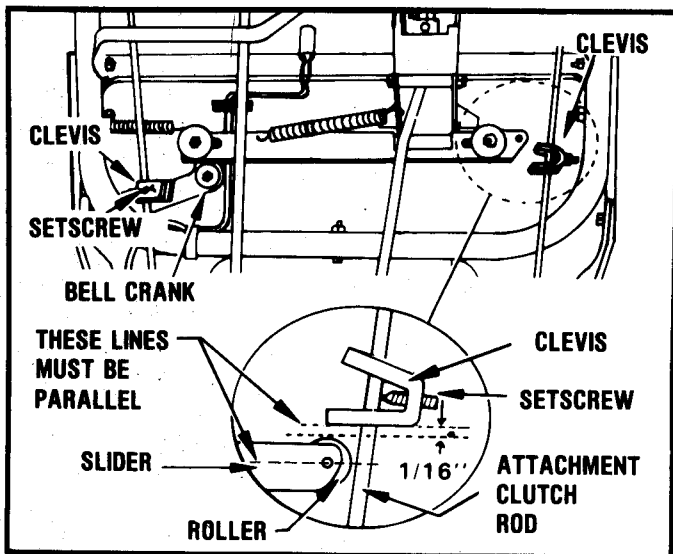

FIGURE 17
## MECHANICAL INTERLOCK — FIGURE 17
2. Release Traction Clutch Lever ("UP" position). Pull bell crank down until slider is at end of slot. See Figure 17. Secure clevis to traction clutch rod at this position with setscrew.
3. Engage both clutch levers ("DOWN" position). Adjust clevis on attachment clutch rod to where it clears roller in slider by 1/16" and the "toe" of the clevis is parallel to the slider. Secure clevis with setscrew at this position. See Figure 17.